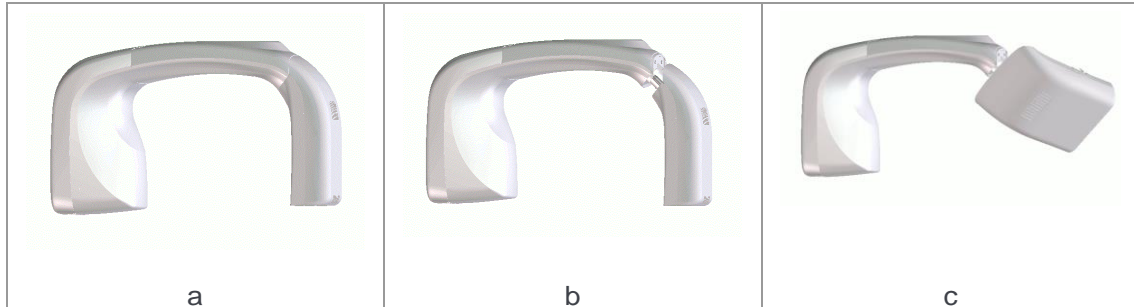

Figure 18
4. Press the button ">O<" on the keyboard the following message will be displayed on the GUI: "CEPH ENTRY STATUS: OPEN FLAT PANEL". The mechanism holding the 3D panel will be unlocked and the 3D detector will move down by a few centimeters (Figure 18-b).
5. Rotate the 3D panel counter clockwise (Figure 18-c) until it locks in place. After one second the system will automatically run the axis positioning